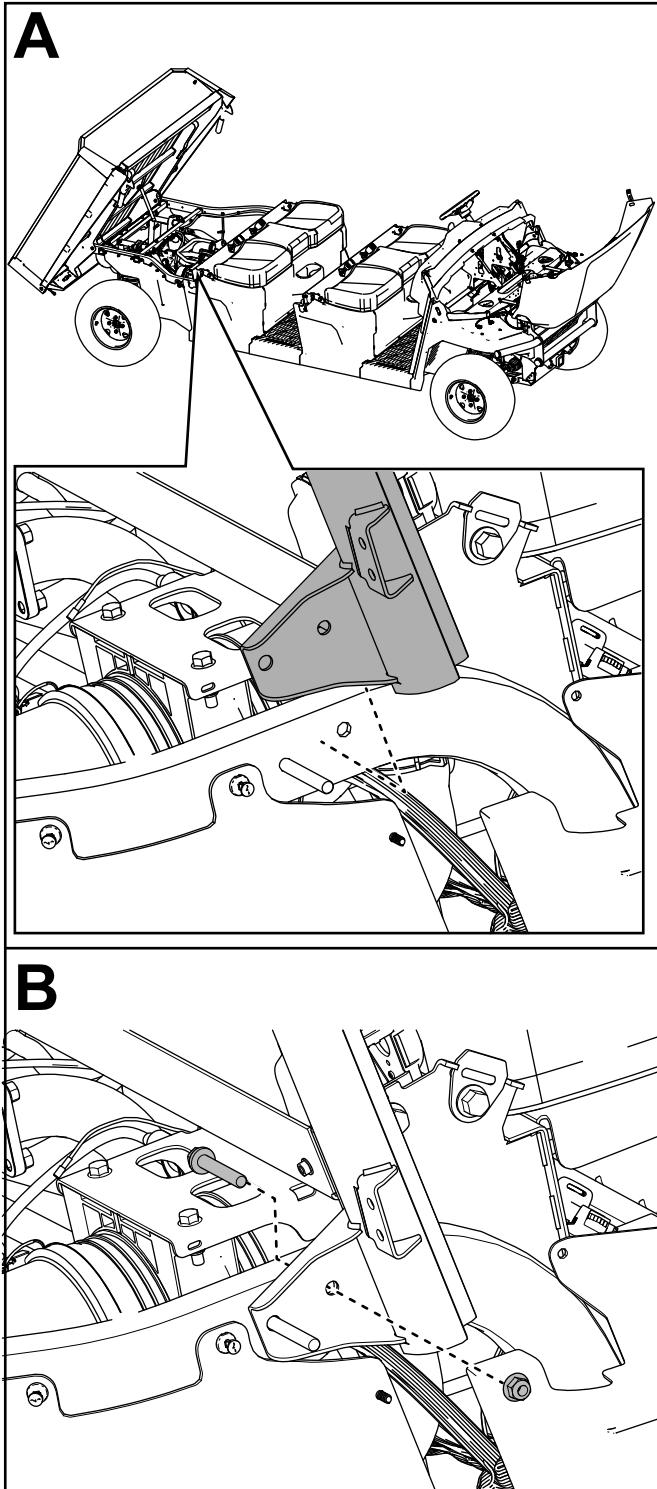

Figure 42
- Loosely secure the right, rear roll bar assembly to the right, rear frame tube using 1 flange-head bolt (3/8 x 2-1/4 inches) and 1 locknut (3/8 inch) as shown in Figure 42.